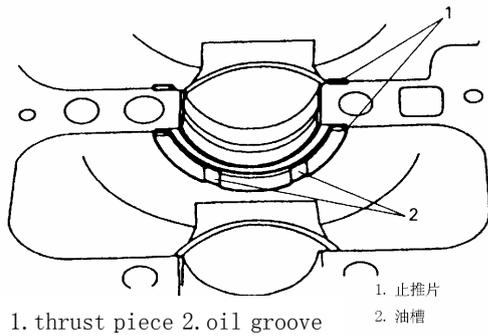

Fig. 4-142
- 2) Install thrust piece on both side of 2nd and 3rd cylinder wall. Oil groove face match with crank as shown in Fig.4-142.